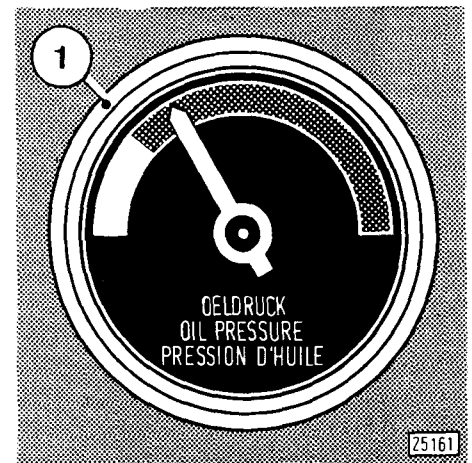

Fig. 21
- the pointer of the oil pressure gauge 1 (Fig. 21) (if provided) is in the green sector, or